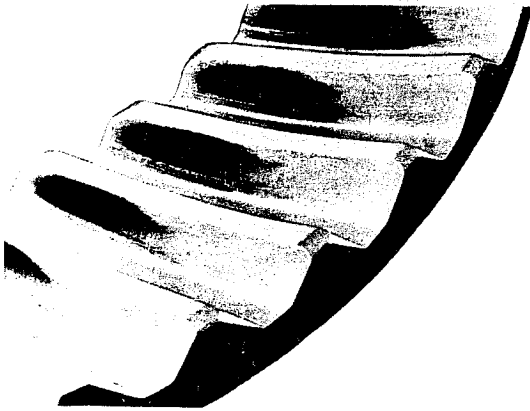

Fig. 49 -- Satisfactory Tooth Contact - No Load (T-31450)
- d. Correct tooth contact pattern is shown in Fig. 49. If contact pattern is NOT satisfactory, add or remove pinion depth adjusting shims Fig. 41 (8) until pattern is satisfactory.